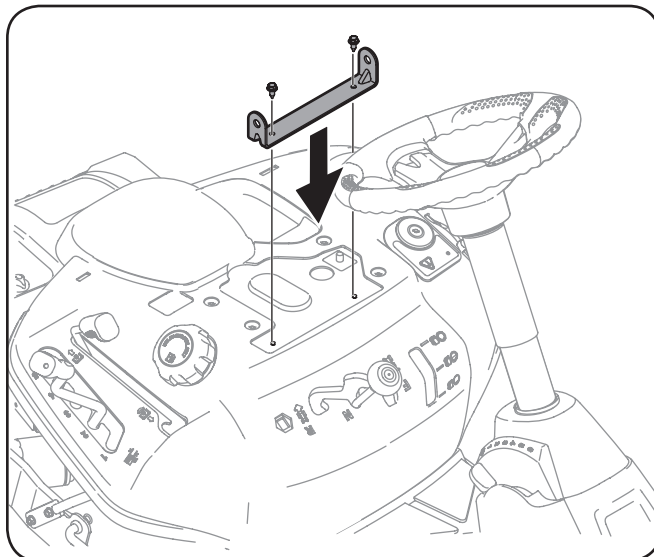

Figure 6
3. Align the seat bracket in place over the holes from where the self-tapping screws were removed, as shown in Figure 6.
4. Using a 1/4-inch drive ratchet with a 3/8" socket, secure the seat bracket with the self-tapping screws removed in Step 2. See Figure 6.